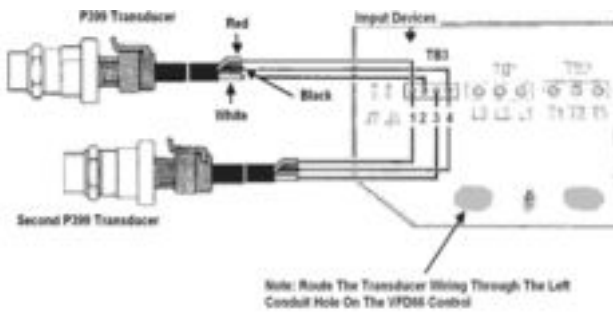

FIGURE 6 - P399 Pressure Transducer Wiring
7. Wire transducers to the VFD66 control. See Figure 6.
- Cut hole in the left most bushing in the bottom of the VFD66 control. See Figure 6. Push transducer sensor wires through this bushing.
- Connect red wire from transducer #1 to terminal (1) on terminal block (TB3) located on the VFD66 Control.
- Connect black wire from transducer #1 to terminal (4) on terminal block (TB3).
- Connect white wire from transducer #1 to terminal (2) on terminal block (TB3).
- Connect red wire from transducer #2 to terminal (1) on terminal block (TB3).
- Connect black wire from transducer #2 to terminal (4) on terminal block (TB3).
- Connect white wire from transducer #2 to terminal (3) on terminal block (TB3).